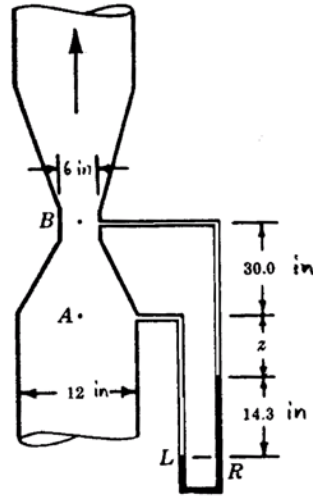

Figure 3
3. For the Venturi meter shown in Fig. 3, the deflection of mercury in the differential gage is 14.3 in. Determine the (a) pressure drop  $\Delta p = p_A - p_B$  between  $A$  and  $B$  and (b) flow rate  $Q$  of water through the meter. Assume no energy loss between  $A$  and  $B$ . (Note: 1 ft = 12 in,  $\gamma = 64.2 \text{ lb/ft}^3$  for water,  $\text{SG} = 13.6$  for mercury, and  $g = 32.2 \text{ ft/s}^2$ )